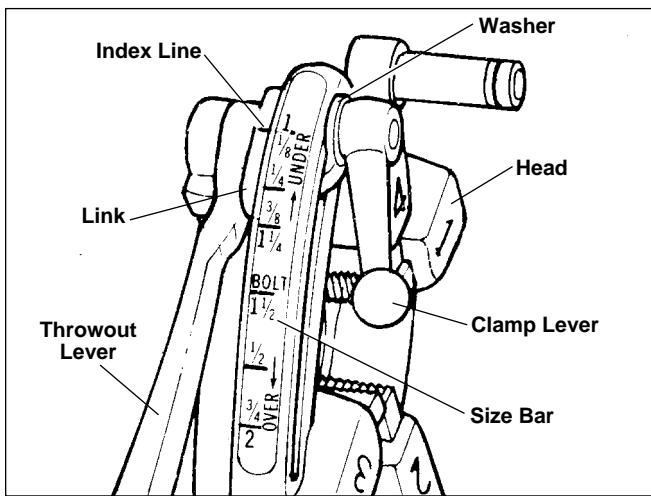

Figure 9 – Universal Quick-Opening Die Head
6. Quick-Opening 811A Die Head (*Figure 9*) – When thread is completed, rotate throwout lever to OPEN position, retracting dies.
The No. 811A Universal Die Head (*Figure 9*) for right hand threads requires four sets of dies to thread pipe ranging from $\frac{1}{8}$ " through 2". One set of dies is required for each of the following pipe size ranges: ($\frac{1}{8}$ "), ($\frac{1}{4}$ ") and ($\frac{3}{8}$ "), ($\frac{1}{2}$ ") and ($\frac{3}{4}$ ") and (1" through 2"). Bolt threading requires a separate set of dies for each bolt size. No bolt dies are available for left hand universal die heads.